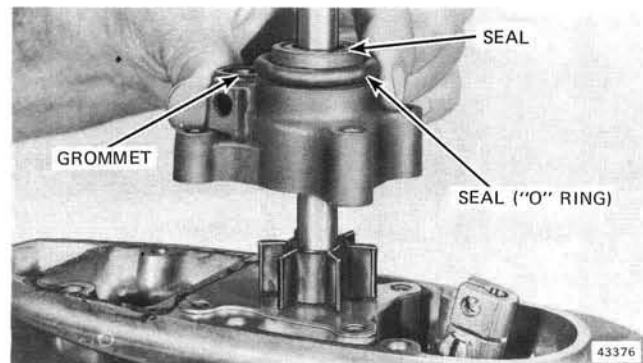

Figure 6-58. Installing Impeller Housing
13. Install cup, new seals, and grommet in impeller housing and slide down driveshaft. See Figure 6-58. Oil impeller blades. While turning driveshaft in a clockwise rotation, slide impeller housing over impeller. Dip screws in OMC Gasket Sealing Compound and install, two short aft, two long forward. Torque to specifications, Section 2.